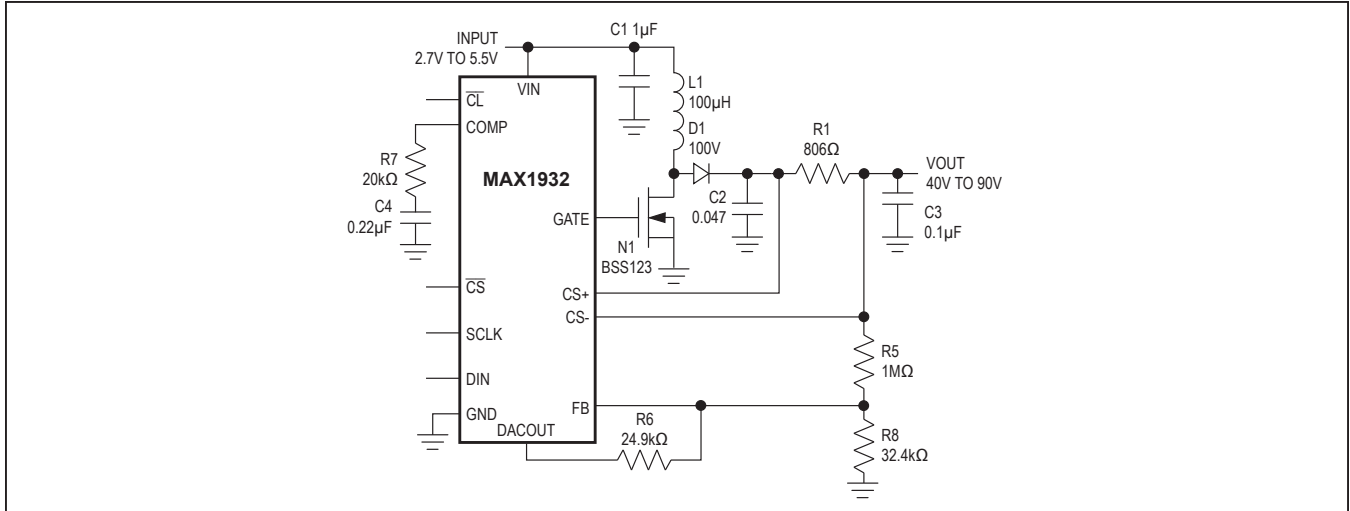
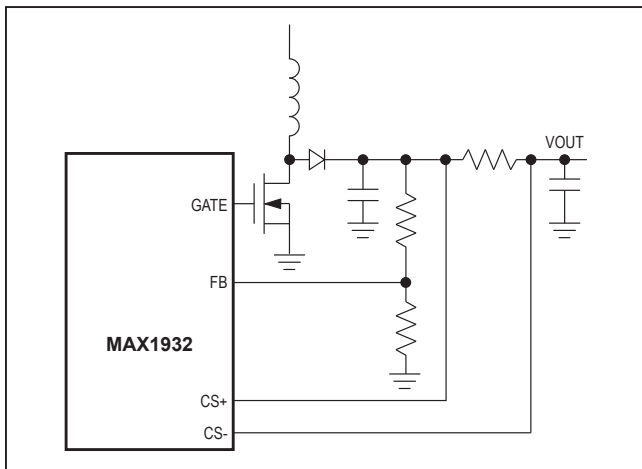

Figure 2. Typical Operating Circuit
Figure 3. Taking Feedback Ahead of Output Filter
The MAX1932 uses an external resistor at CS+ and CS- to sense the output current (see Figure 2). The typical current-limit threshold is 2V.  $\overline{\text{CL}}$  is designed to help find the optimum APD bias point by going low to indicate when the APD reaches avalanche and that current limit has been activated. To minimize noise,  $\overline{\text{CL}}$  only changes state on an internal oscillator edge.
An internal digital-to-analog converter can be used to control the output voltage of the DC-DC converter (Figure 2). The DAC output is changed through an SPI™ serial interface using an 8-bit control byte. On power-up, the DAC defaults to FF hex (1.25V), which corresponds to a minimum boost converter output voltage.
Feedback can be taken from in front of, or after, the current-limit sense resistor. The current-limit sense resistor forms a lowpass filter with the output capacitor. Taking feedback after the current-limit sense resistor (see Figure 2), optimizes the output voltage accuracy, but requires overcompensation, which slows down the control loop response. For faster response, the feedback can be taken from in front of the current-sense resistor (see Figure 3). This configuration however, makes the output voltage more sensitive to load variation and degrades output accuracy by an amount equal to the load current times the current-sense resistor value.
Many biasing applications require an adjustable output voltage, which is easily obtained using the MAX1932's DAC output (Figure 2).
Adjust the output voltage by connecting a voltage divider from the output ( $V_{OUT}$ ) to FB (Figure 2 with R6 omitted). Select R8 between 10k $\Omega$  to 50k $\Omega$ . Calculate R5 with the following equation:
**Table 1. Compensation Components for Typical Circuits (Figure 2)**